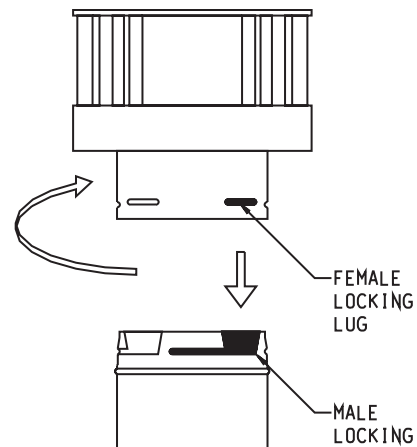
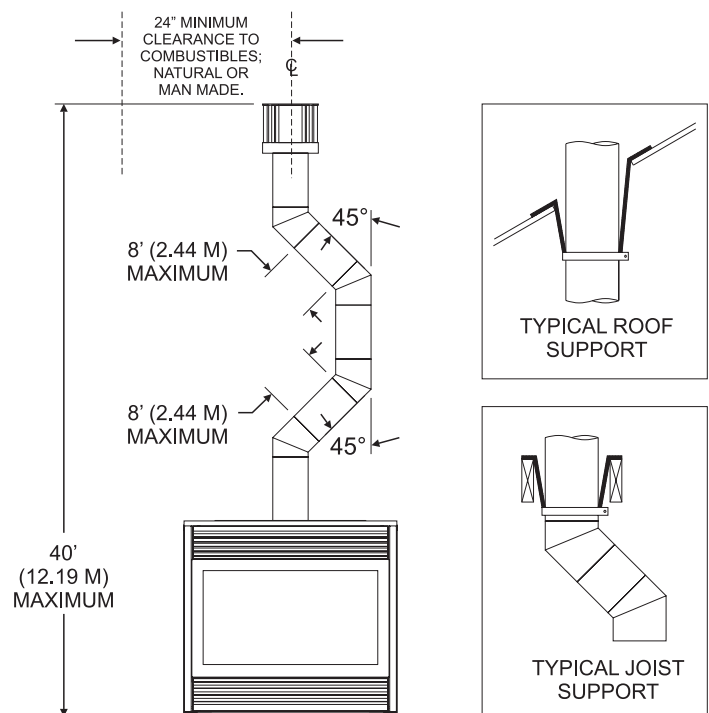

Figure 52
Figure 53
Slide the vertical vent cap over the ends of the vent pipe and secure. (See Figure 52)
Vertical Through the Roof Applications (Figure 53)
The positioning of logs is critical to safe and clean operation of this fireplace. Sooting and other problems may result if the logs are not properly and firmly positioned in the fireplace. Please refer to **Figure 52** and **Figure 53** and corresponding WARNING when completing following log placement steps.
11. After all logs are properly positioned, place small "dime" size pieces of Rockwool lightly across the front burner tube ports. Place the ember material (Rockwool pieces) side by side. Do not stack more than one layer of embers across the burner ports. See Figure 53.